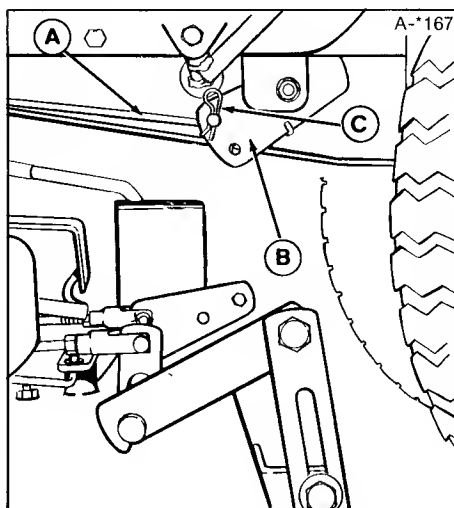

Figure 6. Installing PTO Rod
11. Insert the rear end of the PTO rod in the hole marked "MOW" in the PTO arm (B, figure 6). Insert the spring clip (C).
3. Remove the spring clip (C, figure 6) and pull PTO rod from hole. Reinstall the spring clip in the rod for storage.